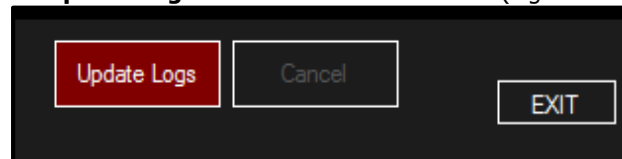

Figure 6.4-1: Update Logs Button
1. Press the "Update Logs" button on the Main Screen (Figure 6.4-1).